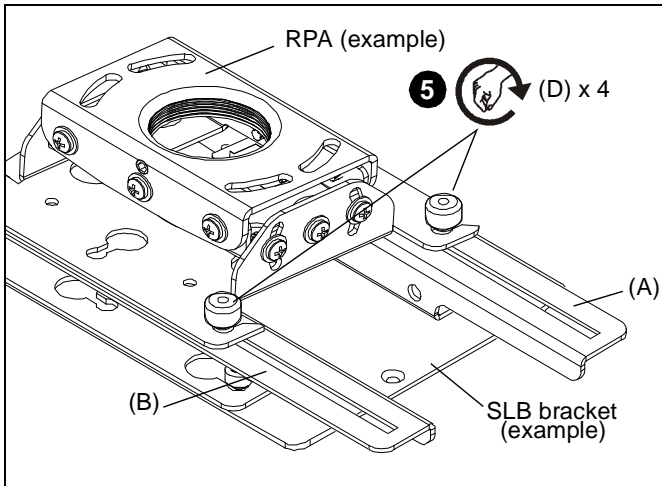

Figure 5
5. Secure LSB100 thumb nuts (D) in slots on RPA and tighten. (See Figure 5)